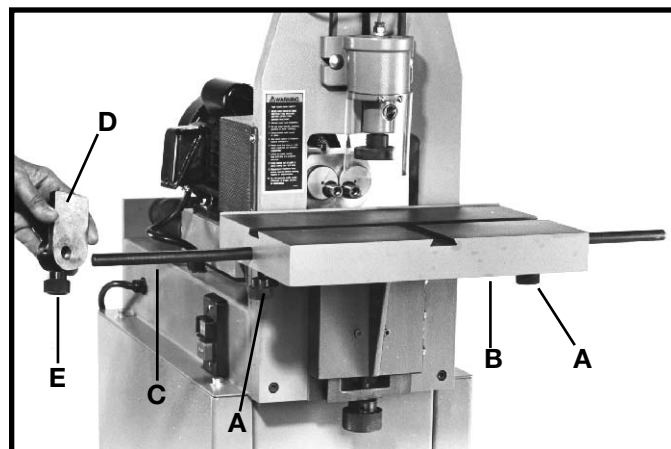

Fig. 11
1. Loosen two lock knobs (A) Fig. 11, located on the underside of table (B).
2. With the flat side of stock stop rod (C) Fig. 11, facing down, slide stop rod (C) through holes at both ends of table (B) as shown, and fasten by rotating two lock knobs (A) clockwise.
3. Assemble stock stop (D) Fig. 11, to either end of the stop rod (C) and hold in place by rotating lock knob (E) clockwise. **NOTE:** Lock knob (E) Fig. 11, must clamp against flat surface of stop rod (C). Adjustments to stock stop (D) can be made later.